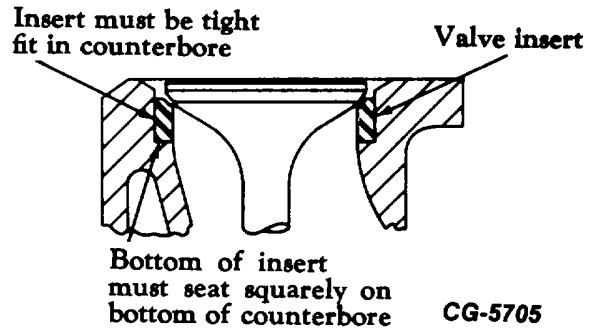

Figure 32. - Insert Properly Installed
4. Properly seated, insert should be recessed into head as shown in Fig. 32.